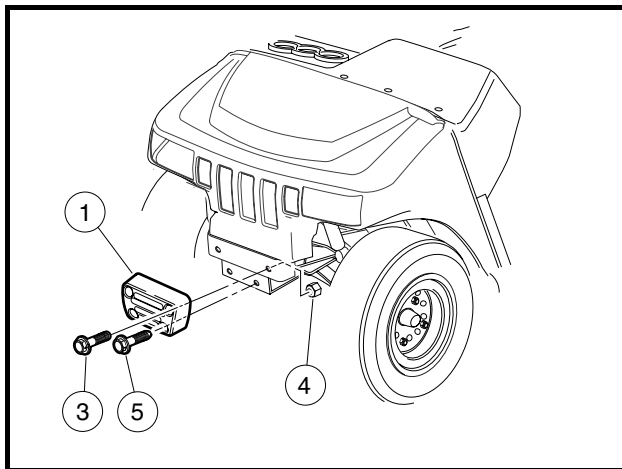
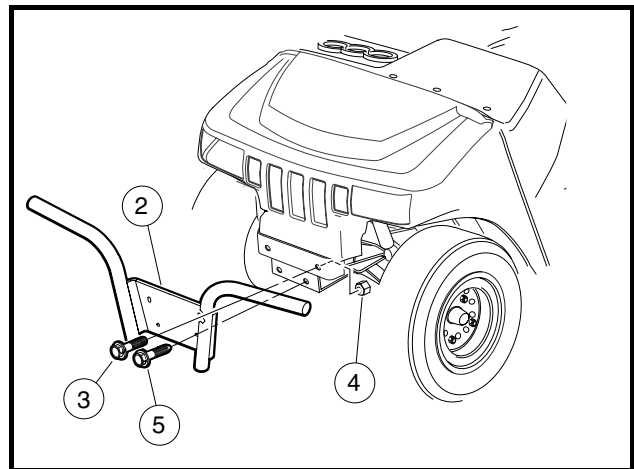

Figure 4-1 Bumper – 800 and 810
Figure 4-2 Brush Guard – 800 and 810
1. Remove bolts (3) and lock nuts (4) (Figure 4-1, Page 4-3 or Figure 4-2, Page 4-3).
2. Remove screws (5) and pull the bumper (1) or brush guard (2) from vehicle. See following WARNING.
1. Position the bumper (1) or brush guard (2) against body and front frame and loosely install top bolts (3) and lock nuts (4) (Figure 4-1, Page 4-3 or Figure 4-2, Page 4-3). See preceding WARNING.
2. Install bottom screws (5) and tighten to 14 ft-lb (19 N·m).
3. Tighten lock nuts (4) to 17.5 ft-lb (24 N·m).